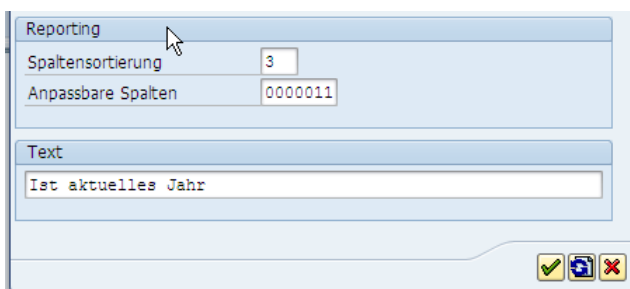

Figure 21.6: Reporting attributes in the column definition
The maintenance dialog for column definitions provides a "Reporting" section (see Section 6.3.2). Here, the attributes for the column definitions are specified. The section in Figure 21.6 shows the read column group "Actuals current year" as displayed in the start screen in Figure 21.1
- "1" in the last two columns (see Figure 21.6) makes it possible to change the end of the planning period (month and year).